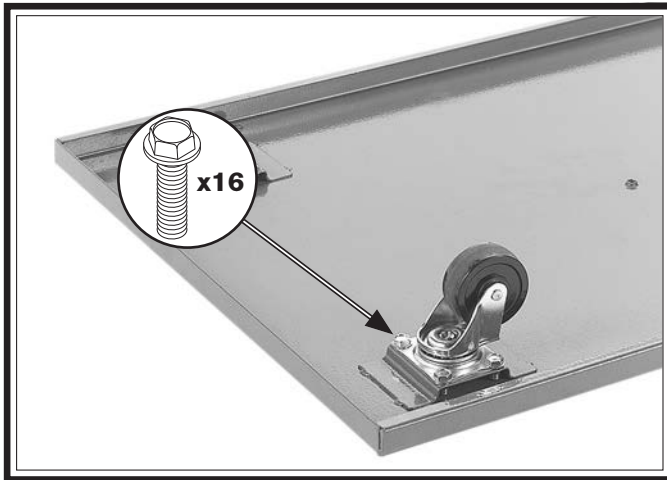

Figure 10. Example of swivel caster attached to base.
1. Attach (4) swivel casters to base with (16)  $\frac{5}{16}$ "-18 x  $\frac{1}{2}$ " flange bolts (see **Figure 10**).